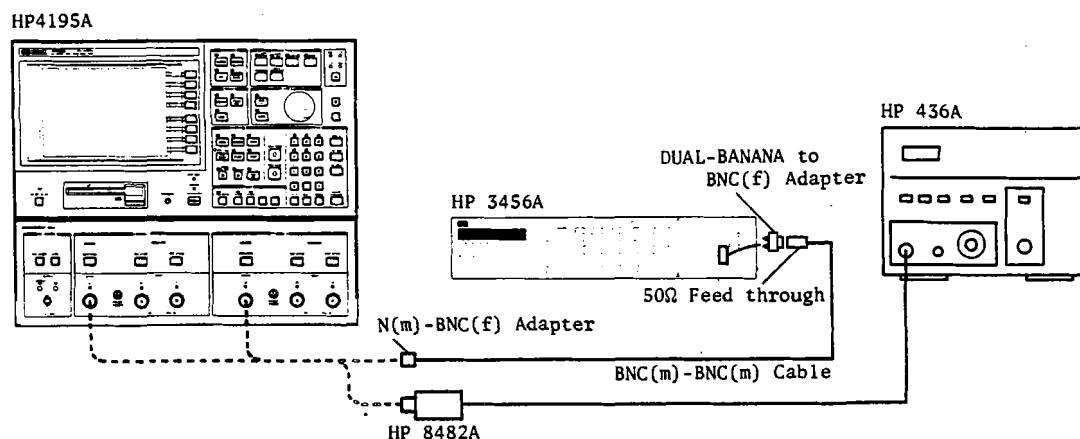

Figure 2-10. Level Accuracy/Flatness Test Setup
2. Connect the Digital Voltmeter **INPUT** to HP 4195A **OUTPUT S1**, as shown in Figure 2-10 (use a 50  $\Omega$  Feedthrough on the Digital Voltmeter input).